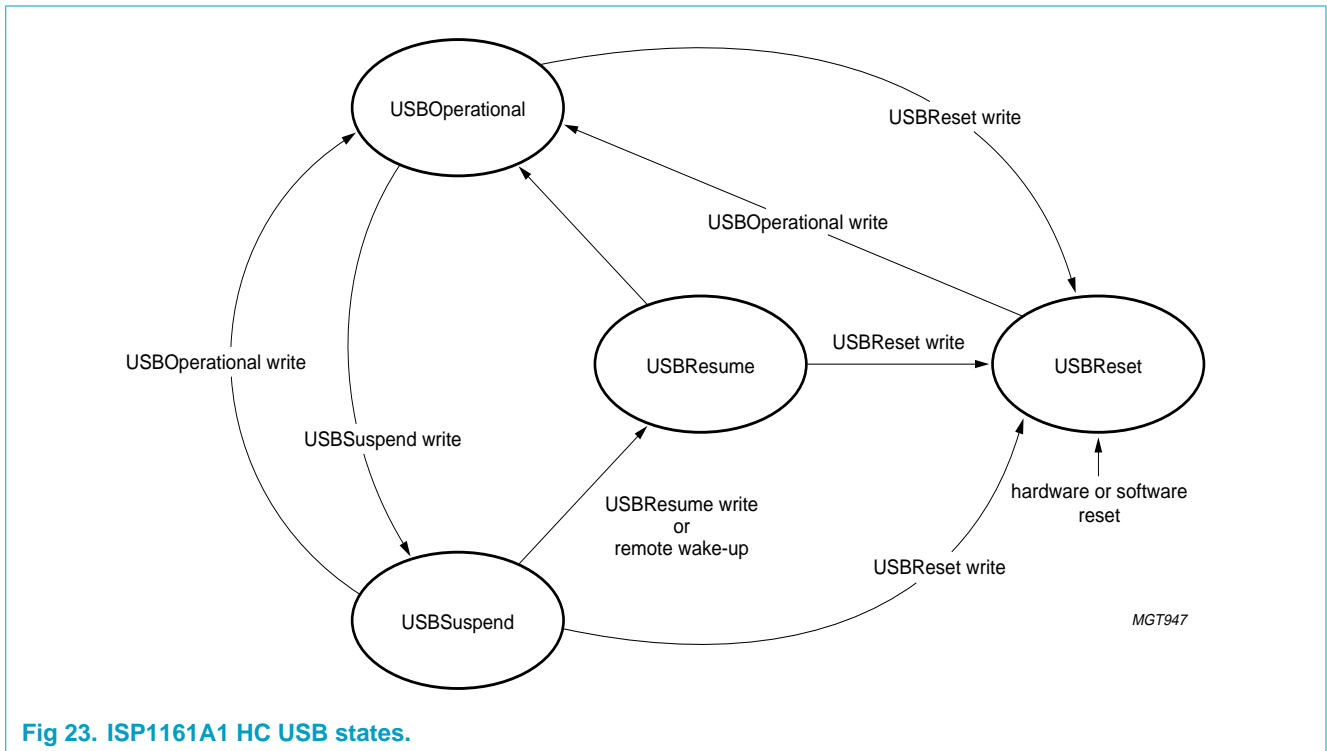

Fig 23. ISP1161A1 HC USB states.
The Host Controller Driver (HCD) can perform only the USB state transitions shown in Figure 23.
**Remark:** The Software Reset in Figure 23 is not caused by the HcSoftwareReset command. It is caused by the HostControllerReset field of the HcCommandStatus register (02H to read, 82H to write).